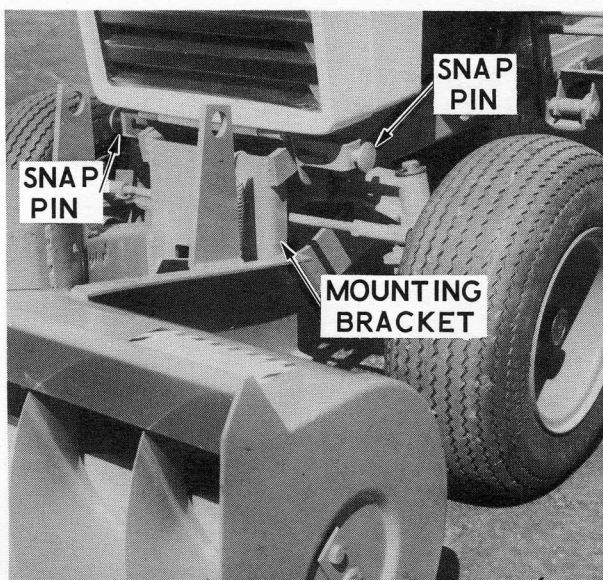

Figure 12.
4. Lock the tractor snap pins in the "open" position. Pivot the mounting bracket upward and into the tractor snap pin receptacles. Release the snap pins and pivot the bracket until they are locked as shown in Figure 12.